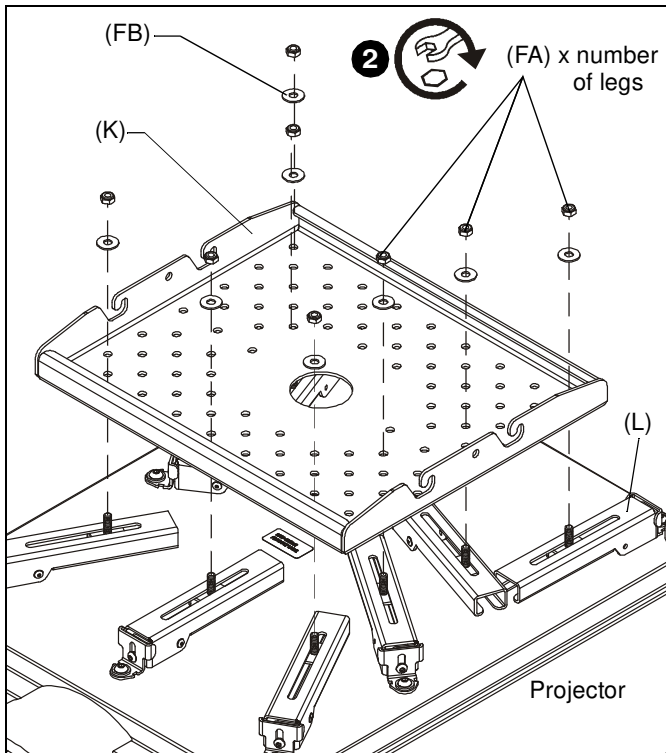

Figure 3
3. Lower HB plate (K) onto legs and fasten using one 5/16" lock nut (FA) and one 5/16" flat washer (FB) on each HBU leg (L). (See Figure 3)